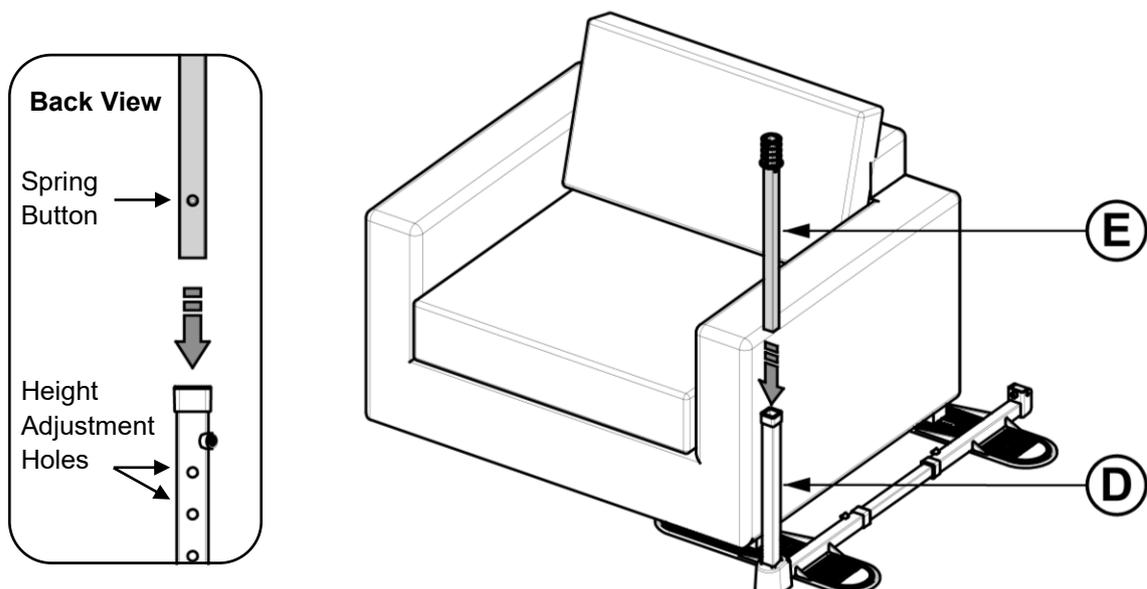

FIGURE 23
23. Slide Internal Upright E into External Upright D as shown in *FIGURE 23*, and adjust height to be close to desired tray height.